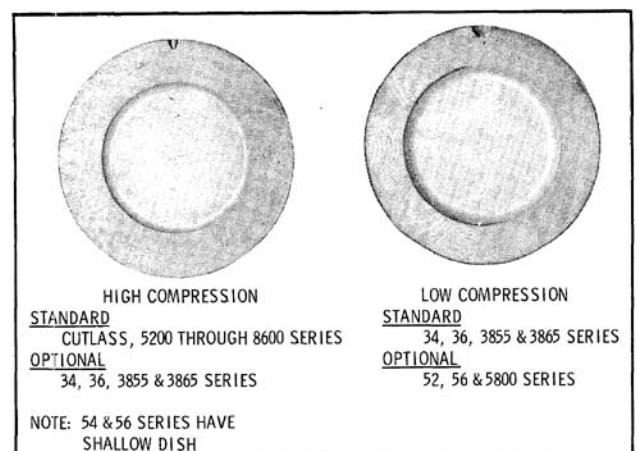

Fig. 3-80 Piston Identification
1. Place a strip of .0015" feeler gauge against the upper side of the bore, at 90° to the normal piston pin location. Attach Scale J-5515 to feeler gauge. (Fig. 3-80)